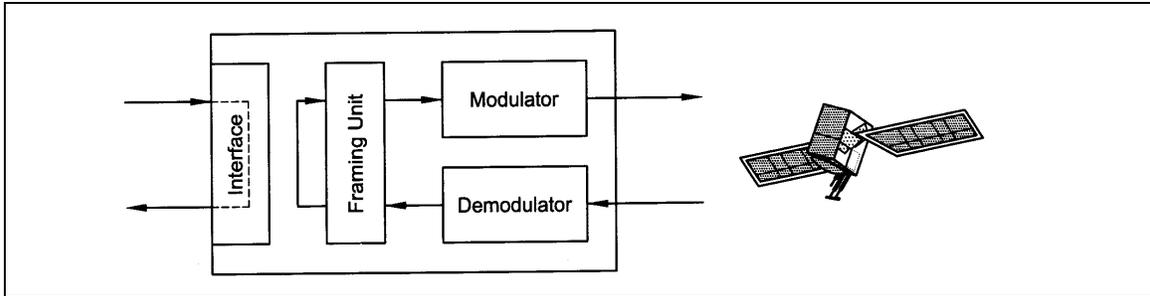

Figure 3-5. Tx/Rx Terrestrial Loopback
**Tx/Rx Loopback** – Provides both of the above loopbacks simultaneously (refer to Figure 3-5).